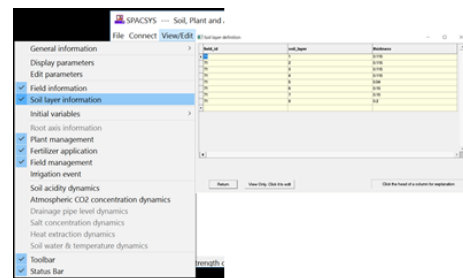

Figure 29. Input soil thickness
- Provide information on soil thickness each soil layer in each field, shown in Figure 29;